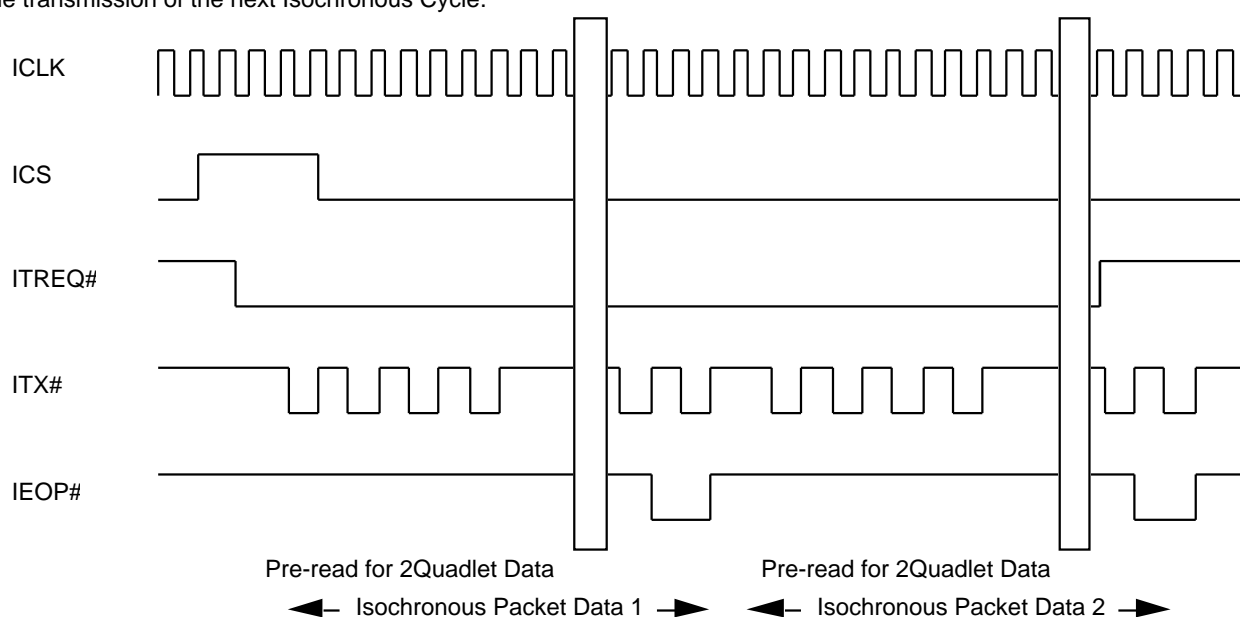

Figure 6.3.1 Multi-Channel Isochronous Transmission Timing (IBPS=Low: MD8413 compatible mode)
Figures 6.3.1 and 2 show the example of multi-channel transmission (for multiple packets) performed in a certain isochronous transmission. As shown in the figure, the MD8430 identifies that there is the next transmission packet because ITREQ# is asserted during the assertion period of the first IEOP# (Isochronous Packet Data (1)). When the MD8430 identifies this condition, pre-reading of the next packet data is performed with the timing of the figure (period of Pre-read for Isochronous Packet Data (2)). After pre-reading in the same manner as described in 6.2, a request for the packet data is sent to the external system, succeeding the time point when the using conditions of serial bus have been acquired. In the example of the figure, two packets are transmitted and packet transmission is finished within the time period for the Isochronous Cycle (N). Thus, ITREQ# is negated with IEOP# of Isochronous Packet Data (2) to complete this cycle.